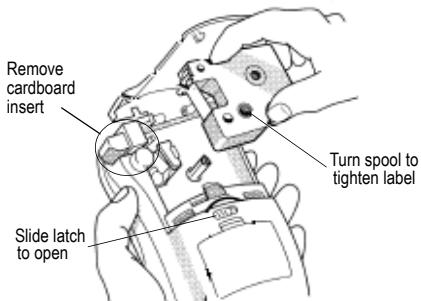

Figure 3
1. Slide the latch to open the label cartridge door. See Figure 3.
2. Make sure the label and ribbon are taut across the mouth of the cartridge and that the label passes between the guideposts. If necessary, turn the spool clockwise to tighten the label. See Figure 3.